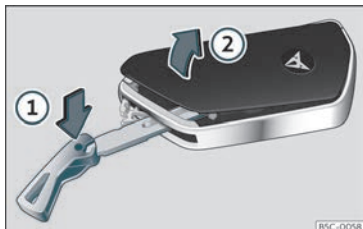

Fig. 76 Vehicle key: opening the battery compartment cover.
- Insert the key blade into the slot >>> **Fig. 76**, press it in the direction of arrow ① and detach the cover by levering it ②.